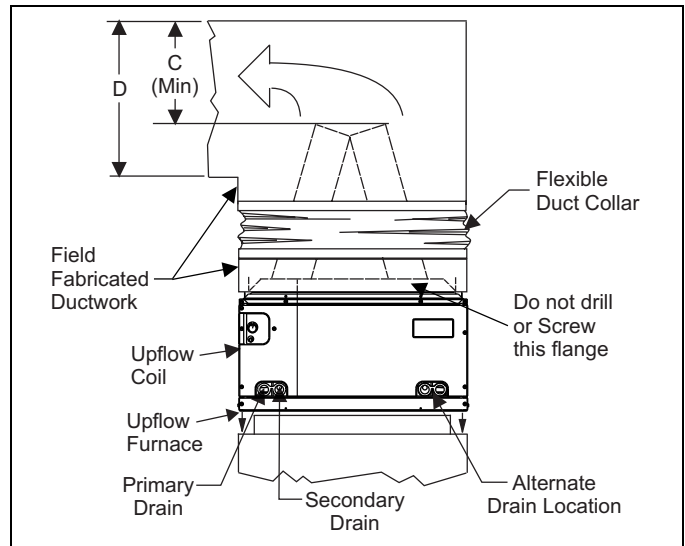

FIGURE 6: PC Series Upflow Coil Installation
1. Position the coil casing over the furnace opening as shown in Figures 6.
Do not drill any holes or drive any screws into the front duct flange on the coil in order to prevent damaging coil tubing. See Figures 6
NOTE: Dimension "C" should be at least 2/3 of dimension "D". See Figures 6
These coils are supplied ready to be installed in a right hand position or a left hand position. When used in conjunction with a horizontal furnace (blow through) application, the coil should be oriented with the opening of the "A" coil closest to the furnace. See Figure 6.
NOTE: Each coil is shipped with an external tie plate that should be used to secure the coil to the furnace. It should be installed on the back side of the coil using the dimpled pilot holes. See Figure 6.